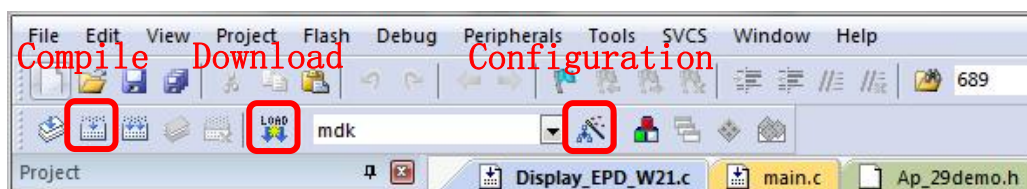
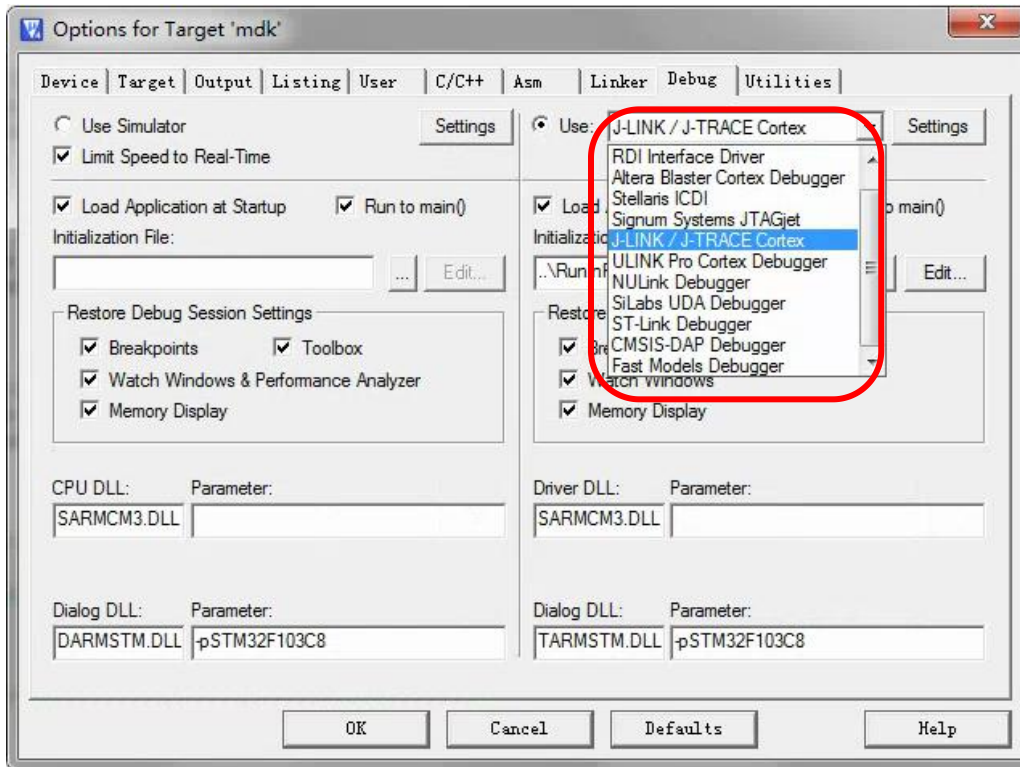
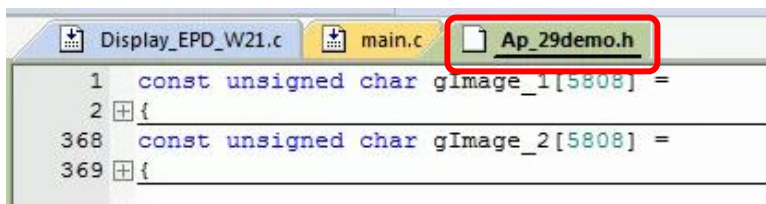

Figure 7 : Keil4 toolbar
Figure 8 : Choose the simulator model
Figure 9 : change the image data
3) The Keil4 toolbar is shown in Figure 7. Please click  at the first time using the simulator and a box like Figure 8 will pop up. Choose the simulator model of yours in the "Debug" bar, and click "OK" to confirm.
4) Click Ap_29demo.h in Figure 9 to change the image data that needs to be displayed (the image data needs to be achieved by image2lcd).
- 5) Click  in the toolbar in Figure 7 to compile.
- 6) Click  in the toolbar in Figure 7 to download.
- 9) If you want to change a image, you need to use Keil4 to change the image data (Figure 9), compile it (Figure 7) to generate a new mdk.hex file, and then re-select the file to download it.